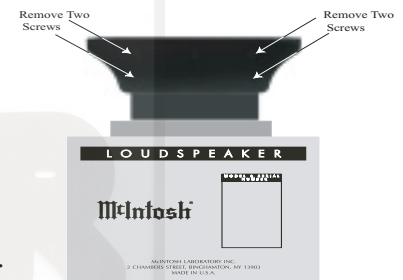

Figure 11
12. Using the supplied Allen Wrench, remove two screws from each side of the Column Bottom. Refer to figure 11.